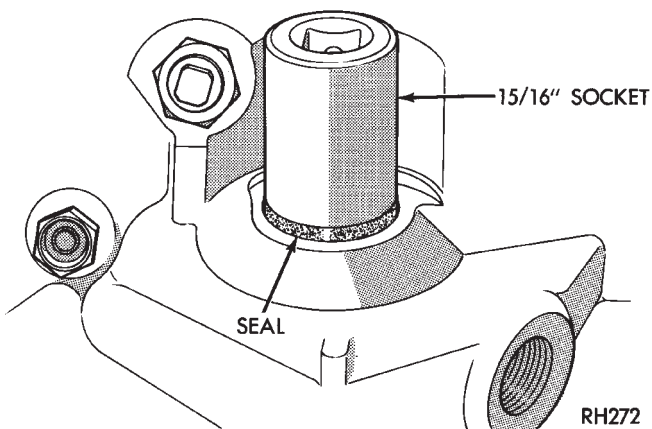

Fig. 186 Installing Manual Lever Shaft Seal
(57) Install magnet in oil pan. Magnet goes on small protrusion at corner of pan.
(58) Position new oil pan gasket on case and install oil pan. Tighten pan bolts to 17 N·m (13 ft. lbs.).
(59) Install new valve body manual shaft seal in case (Fig. 186). Lubricate seal lip and manual shaft with petroleum jelly. Start seal over shaft and into case. Seat seal with 15/16 inch, deep well socket.